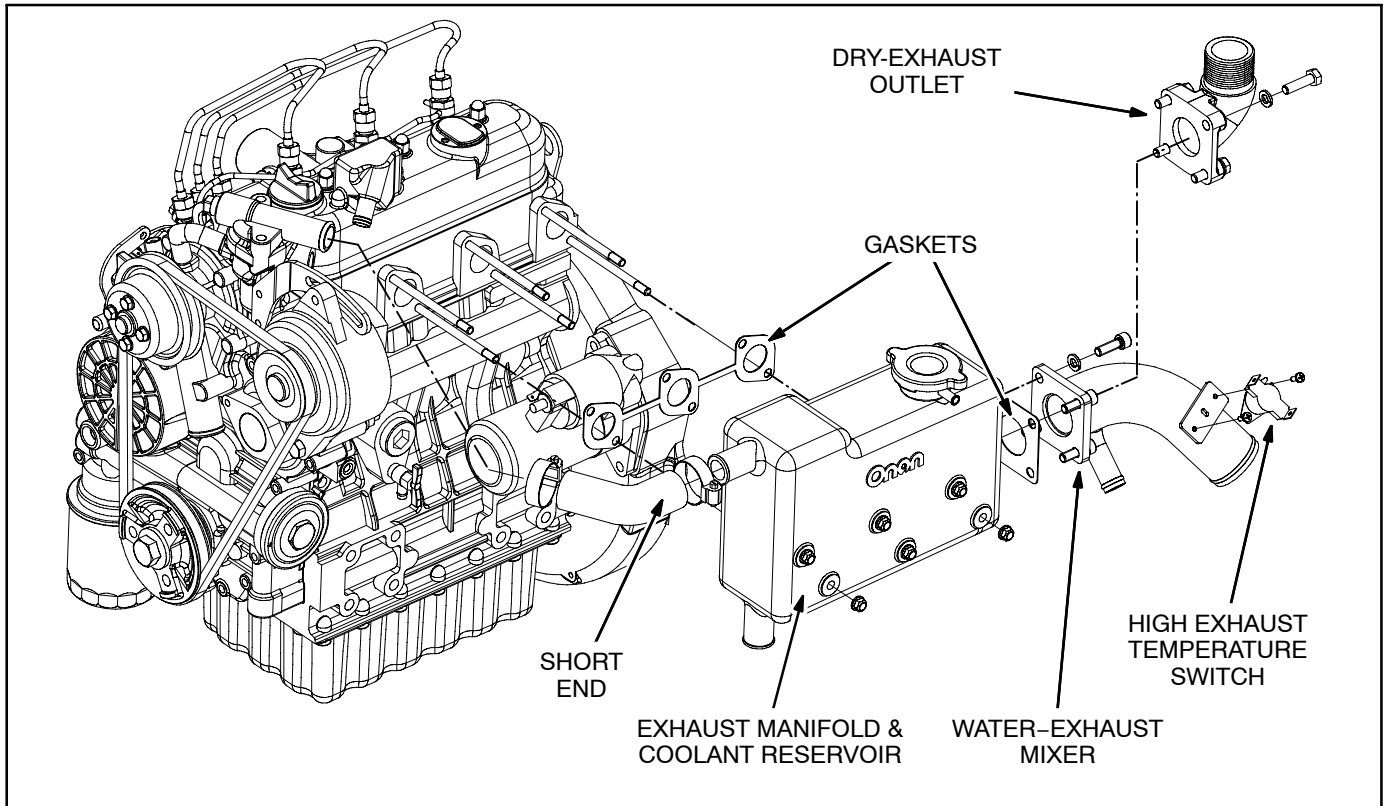

FIGURE 6-1. TYPICAL EXHAUST MANIFOLD / COOLANT RESERVOIR—MDK BK, MDK BL, MDK BM, MDK BN, MDK BT, MDK BU
MDK BK, MDK BL, MDK BM, MDK BN: (Figure 6-1) Use new manifold and mixer gaskets when re-assembling. Torque the manifold nuts (2 per port) to 7.2–8.8 lb-ft (9.8-12.0 N-m) and the mixer flange bolts (4) to 17.1–20.9 lb-ft (23.4-28.6 N-m).
MDK BT, MDK BU: (Figure 6-1) Use new manifold and mixer gaskets when reassembling. Torque the